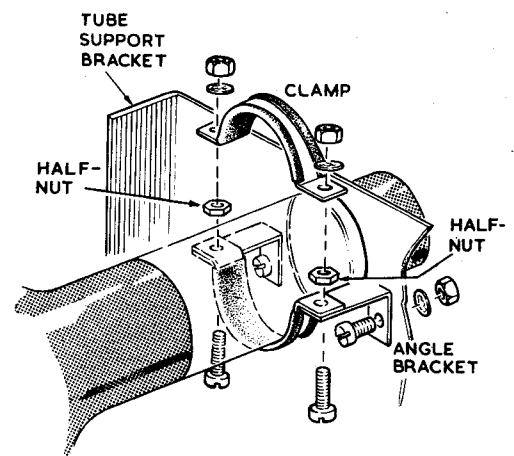

FIGURE 14
Refer to Figure 14 for the following steps:
- ✓ Using two 4BA x  $\frac{3}{8}$ " binderhead screws, lockwashers and nuts, mount the two small angle brackets to the tube support bracket as shown in Figure 14. Do not fully tighten the screws.
- ✓ Referring to Figure 14, insert a length of rubber cushion over each clamp, making sure that the clamp is seated in the groove of the rubber strip. Cut off any surplus material.